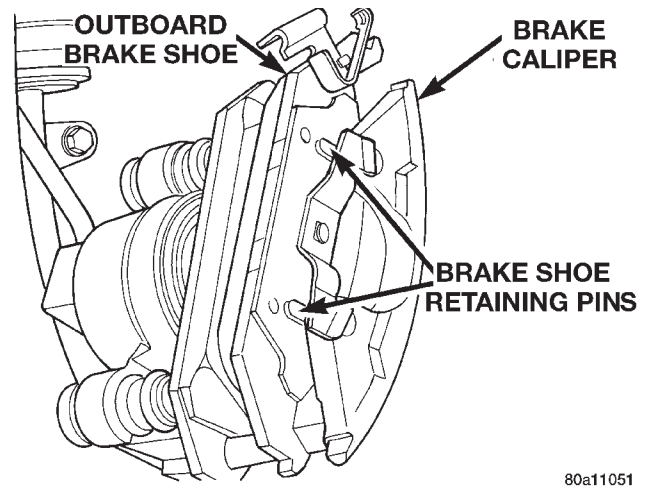

Fig. 88 Removing / Installing Outboard Brake Shoe
(8) Remove outboard brake shoe by pushing the brake shoe inward until retaining pins on brake shoe can be removed from holes in caliper (Fig. 88). Then slide the brake shoe off the caliper.
(6) Slide the new outboard brake shoe assembly onto the caliper assembly (Fig. 88).